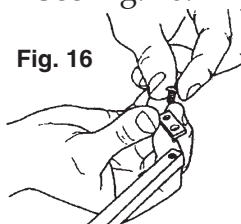

Fig. 16
5. Use a button head screw (7) to attach the pivot plate (5) to the arm. Finger tighten. See Fig. 16.